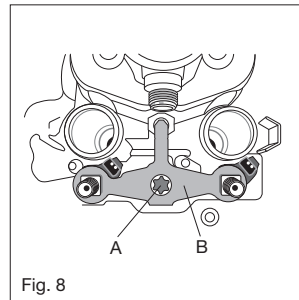

Fig. 8
10. Refer to Figure 8: Fit hold-down clamp **B** onto injectors. Only hand-tighten the securing screw **A** by a few threads.